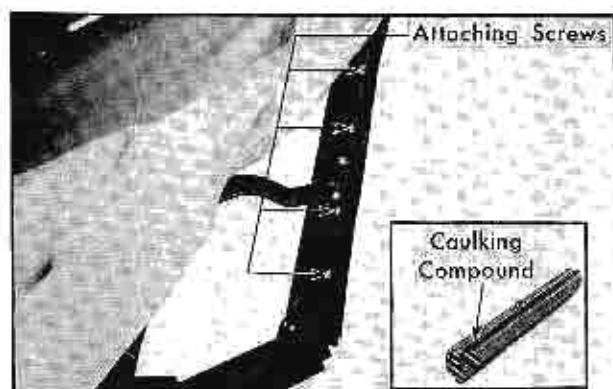

Fig. 3-49 Side Roof Rail Mechanical Sealing Strip (6257)
2. Remove weatherstrip attaching screws and nuts and washers, Fig. 3-49; then remove weatherstrip.
3. To install, reverse removal procedure. Apply a ribbon of body caulking compound to attaching surface of front and center side roof rail weatherstrips along entire length of parts as indicated in Fig. 3-49. Clean off excess sealer.